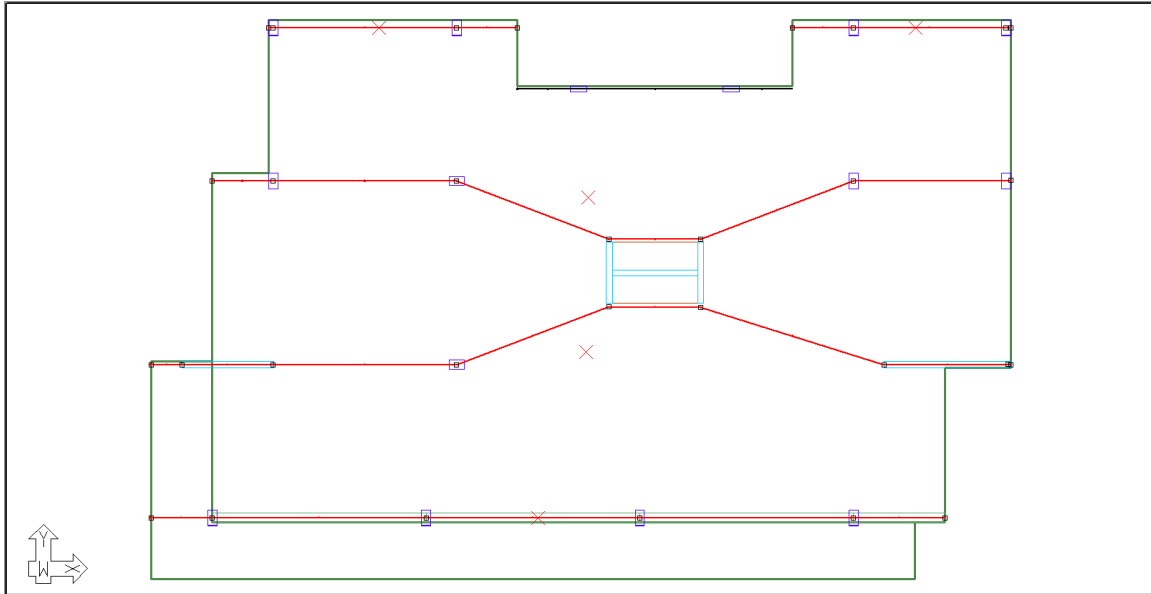

FIGURE 9-36
- Hold **Ctrl** on your keyboard and click on all the other support lines except the top middle support line. When finished, your screen should look as shown in **FIGURE 9-36**.